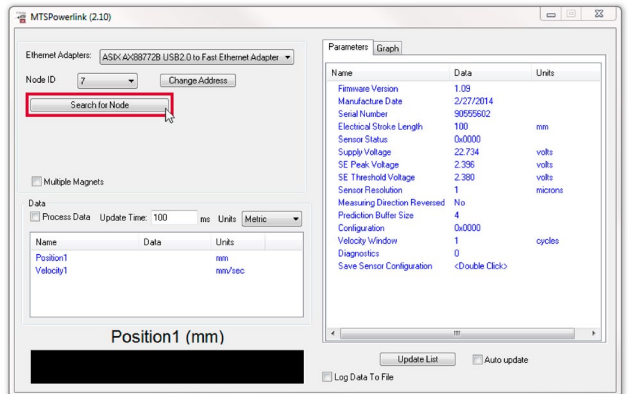

Fig. 52: Search for node ID
- Click on “Search for Node” to figure out which node ID the connected sensor has (Fig. 52). The default node ID is 32.